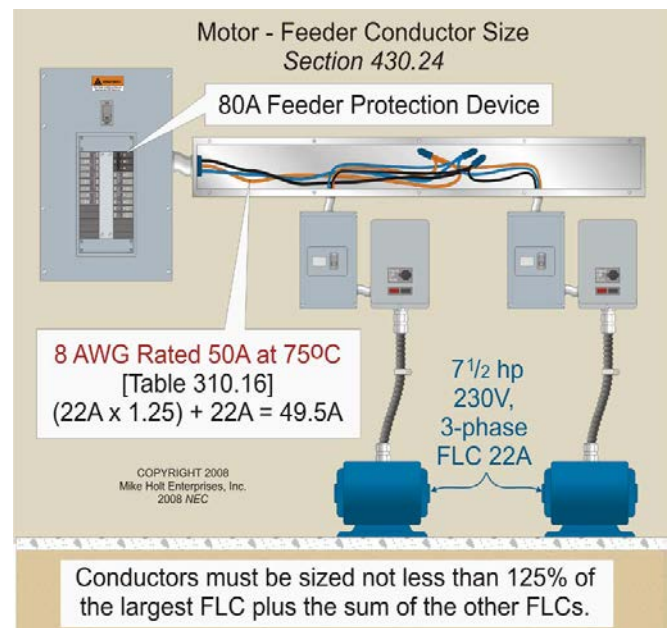

Figure 7-7
**Question:** What size feeder conductor is required for two 7½ hp, three-phase, 230V motors? The terminals are rated for 75°C. **Figure 7-7**